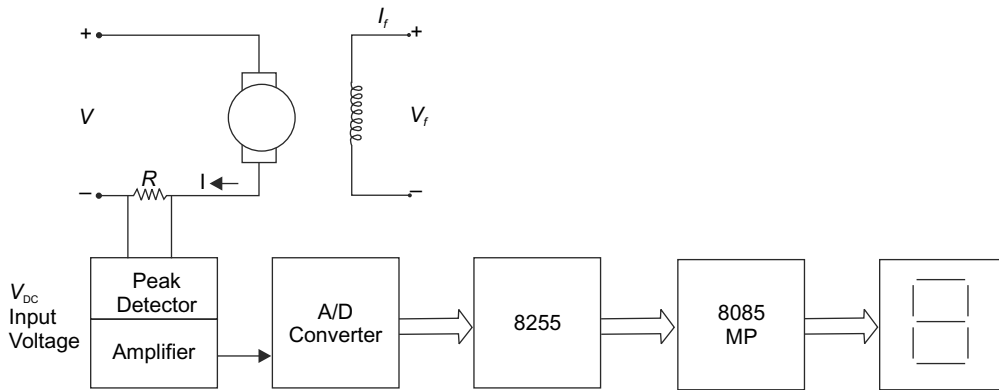

Fig. 10.16 A dc current measurement
Figure 10.16 shows the current measurement of a dc motor. For the measurement of current, the current signal is converted to voltage signal. A very low resistance of approximately 0.1 ohms may be connected in series with the load. Then voltage across the resistance should be equal to 0.1 times of load current (I). After amplifying by ten times, the amplifier output voltage must be equal to the current. Then output analog voltage is applied to the input of the peak detector circuit so that it can deliver 5 volts when 5 A current flows through the circuit. Thereafter, by measuring voltage, we can measure analog input current in digital form. The program for voltage measurement may be used in current measurement also. But there will be some changes in the look-up table. In the look-up table for each digital input signal due to corresponding input, current calibrated data must be stored in two successive memory locations as given in Table 10.4.